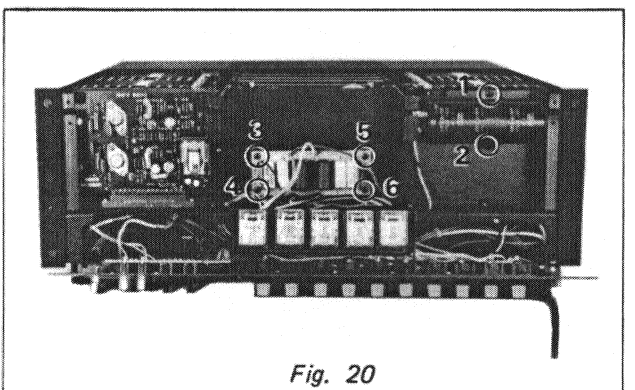

Fig. 20
First remove the rear panel, and then screws (1) and (2) as shown in Fig. 20. Then take out the capacitor.
Take off the rear panel and then remove screws (3) to (6) as shown in Fig. 20, then pull off the circuit board.